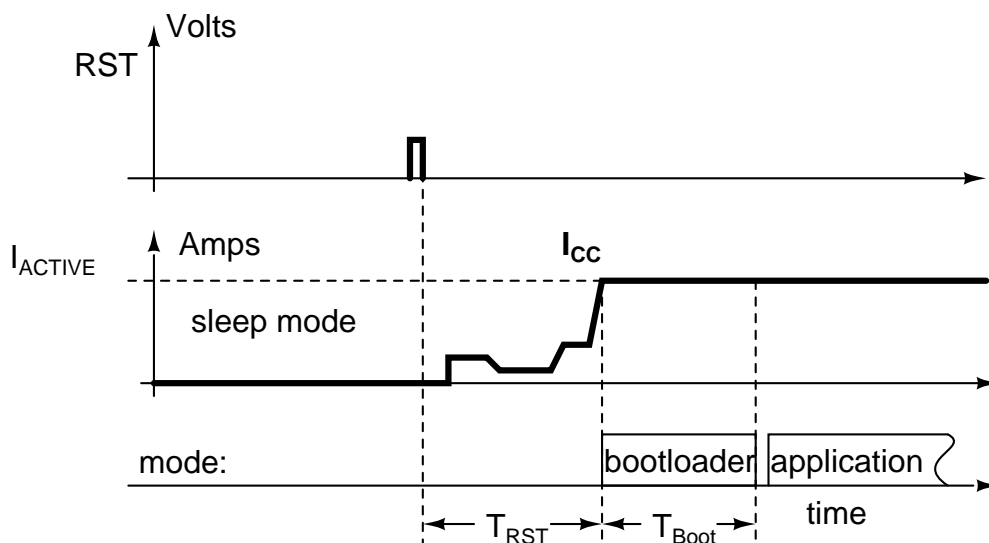

Figure 32: Power on sequence-3 (reset controlled by Host MCU when in sleep )
2. Reset while the Tango C is in sleep mode, shown in figure 32.